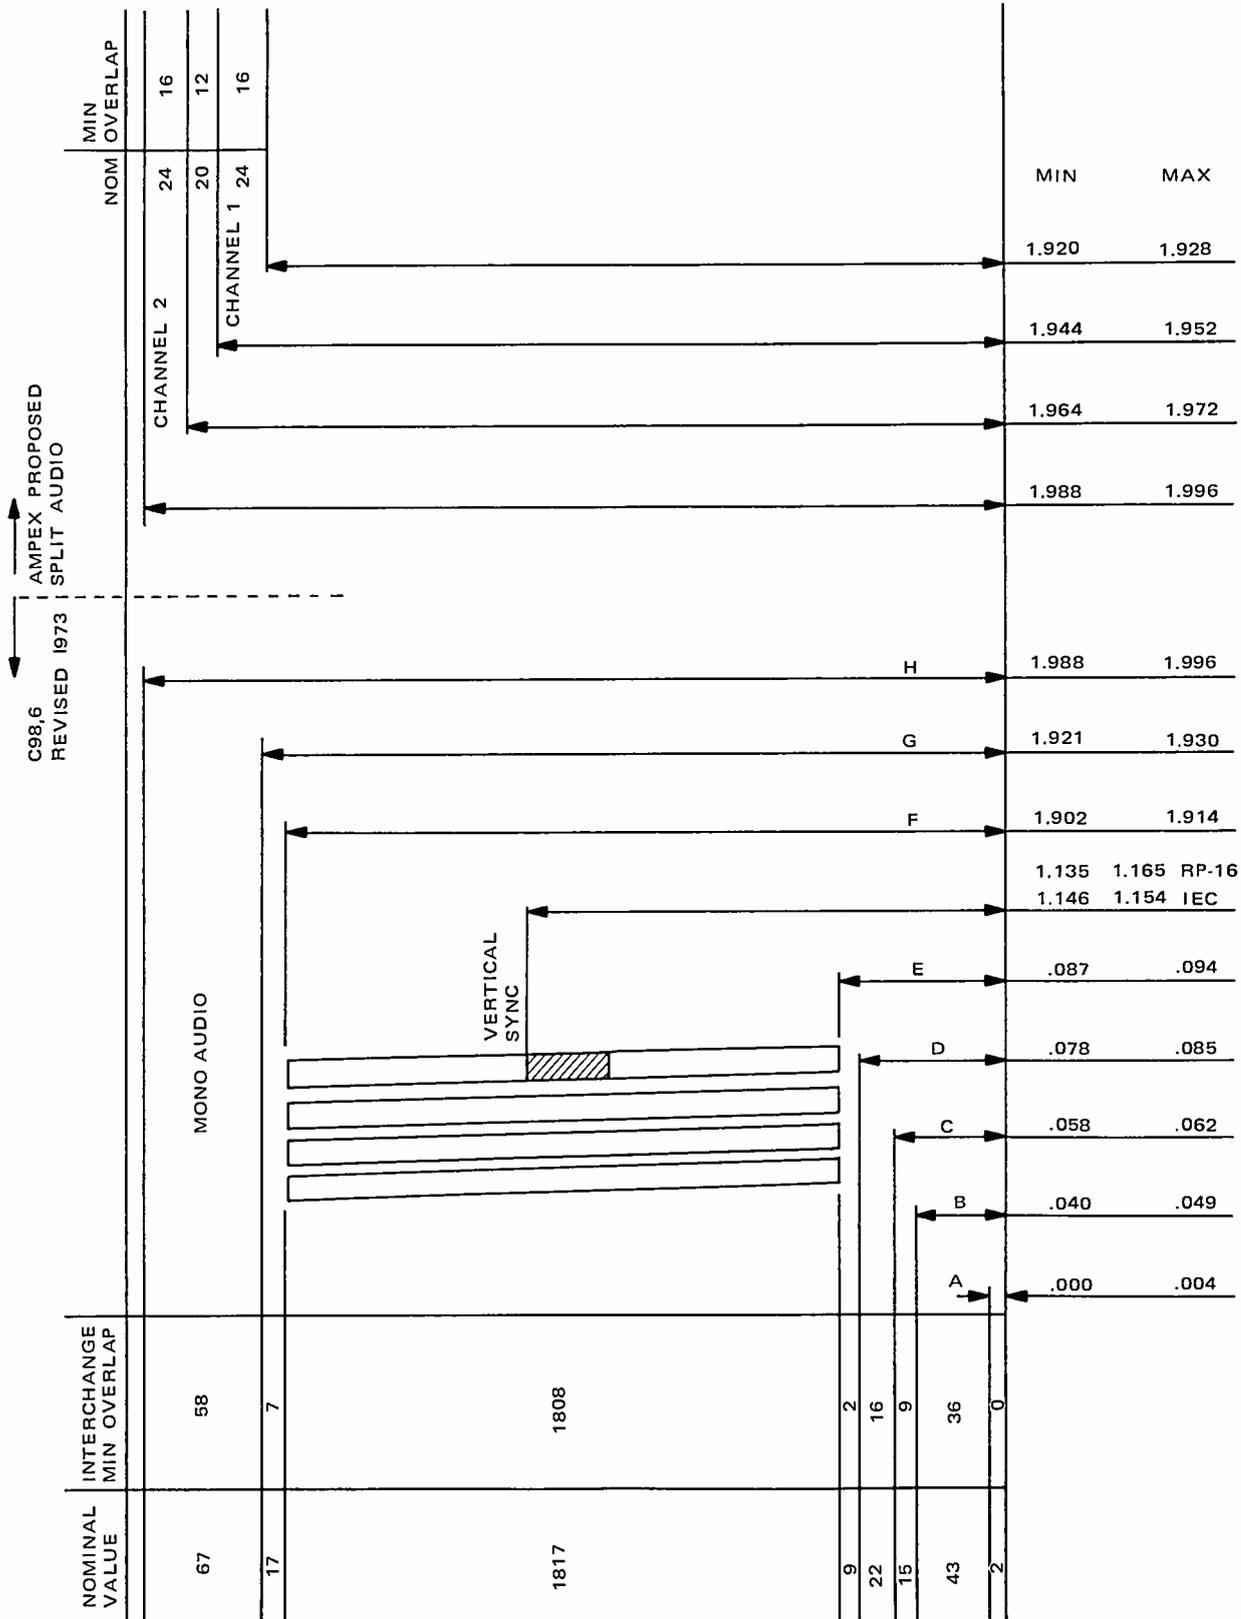

Figure 4-2. Two-Inch Quad Format
2. Video and control tracks erased at the video erase stack (see Figure 4-2).